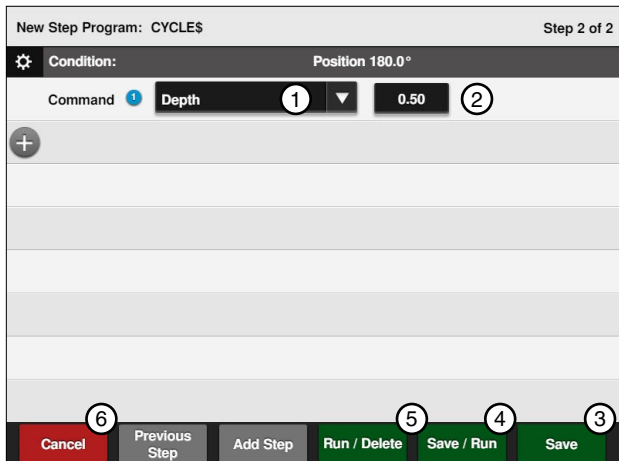

Figure 156-2 1. Depth Command 2. Inches Field 3. Save 4. Save / Run 5. Run / Delete 6. Cancel
7. Enter the command to be executed at this position. Refer to Figure 156-2.
8. Finish the program by selecting one of the following. Refer to Figure 156-2.